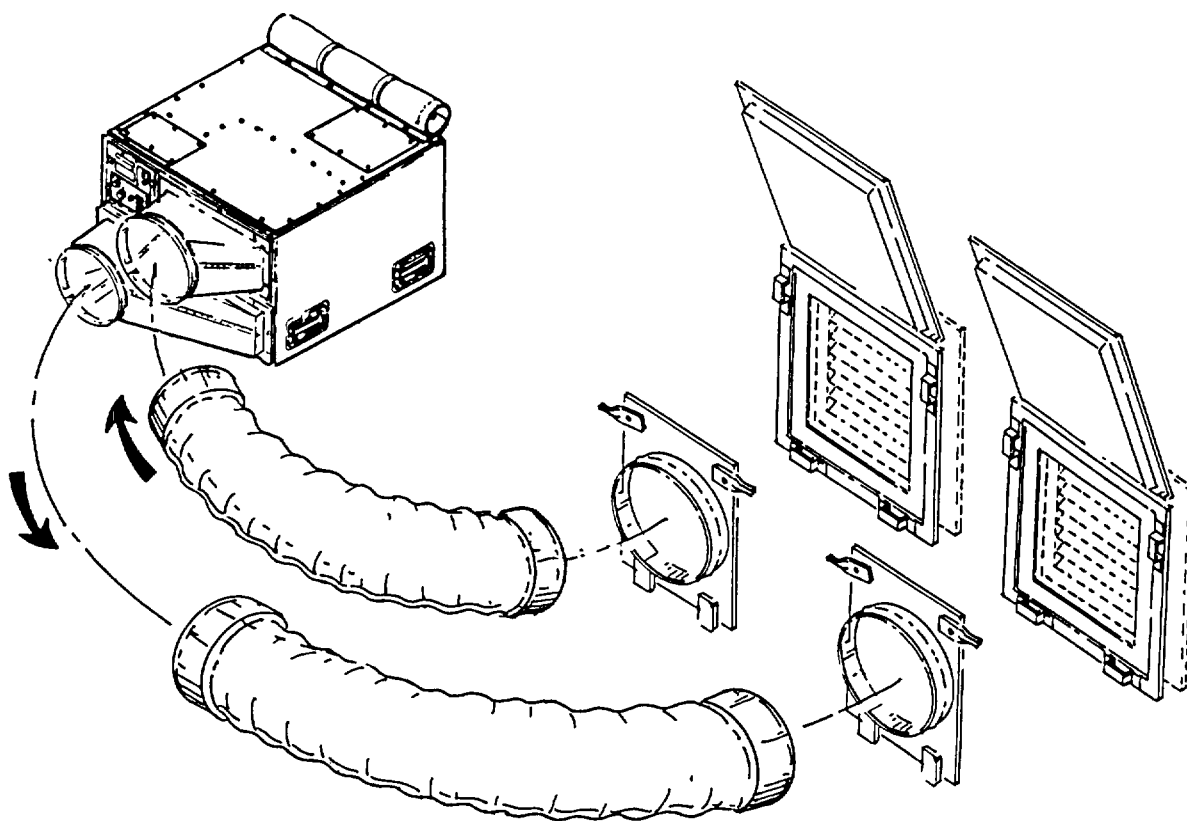

Figure 4-7. Flexible Duct Attachment to Adapters.
**Observe air flow directional arrow on flexible ducts. Refer to figure 4-7.**
c. Slide the end of the flexible duct onto the return duct adapter, making sure the directional arrow is pointing in the correct direction (refer to figure 4-7). When properly in place, the hem containing the strap is passed over the raised rim of the duct adapter. Make sure the strap ends are positioned to allow tightening of retaining clamps.
e. Repeat steps c and d as necessary to attach the supply flexible duct to the supply duct adapter, making sure the directional arrow is pointing in the correct direction (refer to figure 4-7).